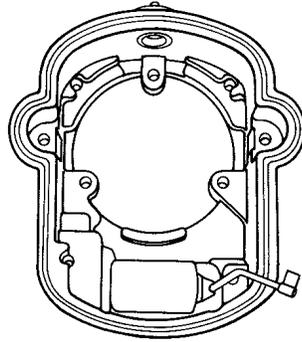

Figure 7.12
- A. Assemble the condenser into the distributor housing, being sure to rotate the condenser wire the same rotation as the condenser is tightened in the housing. (See Figure 7.12).